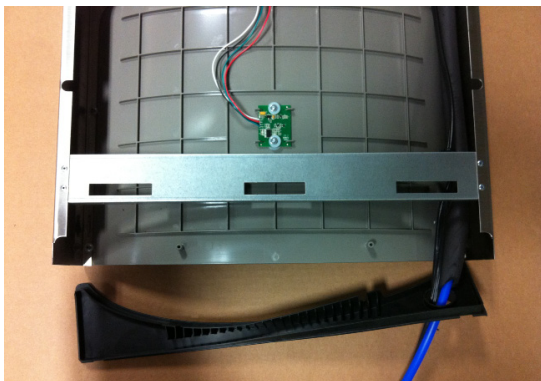

Fig. 7
- 5) Feed power cord & 3/8" water line through hole in tower/basin gasket (See Fig 7).